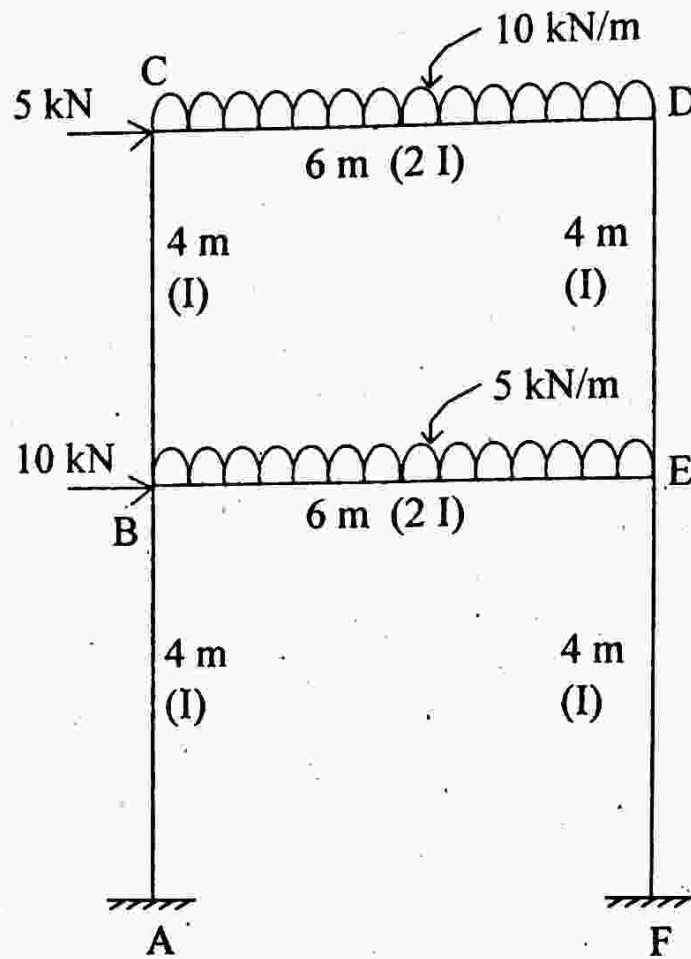

Fig. 2
2. Analyse the portal frame in Fig. 2 by Kani's method.